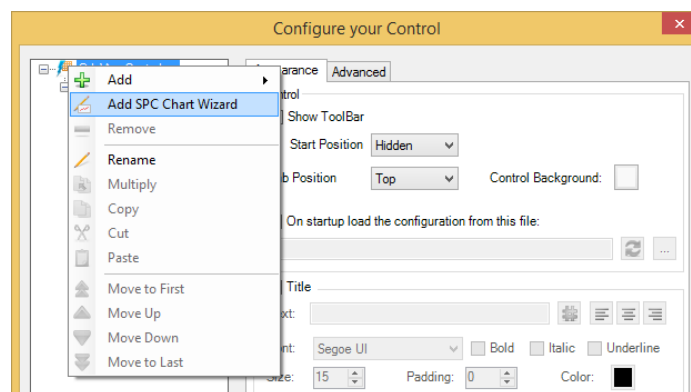

Figure 2 - Select SPC Control Chart
2. Right Click on the the tab and select Add SPC Chart Wizard, as shown in Figure 2.